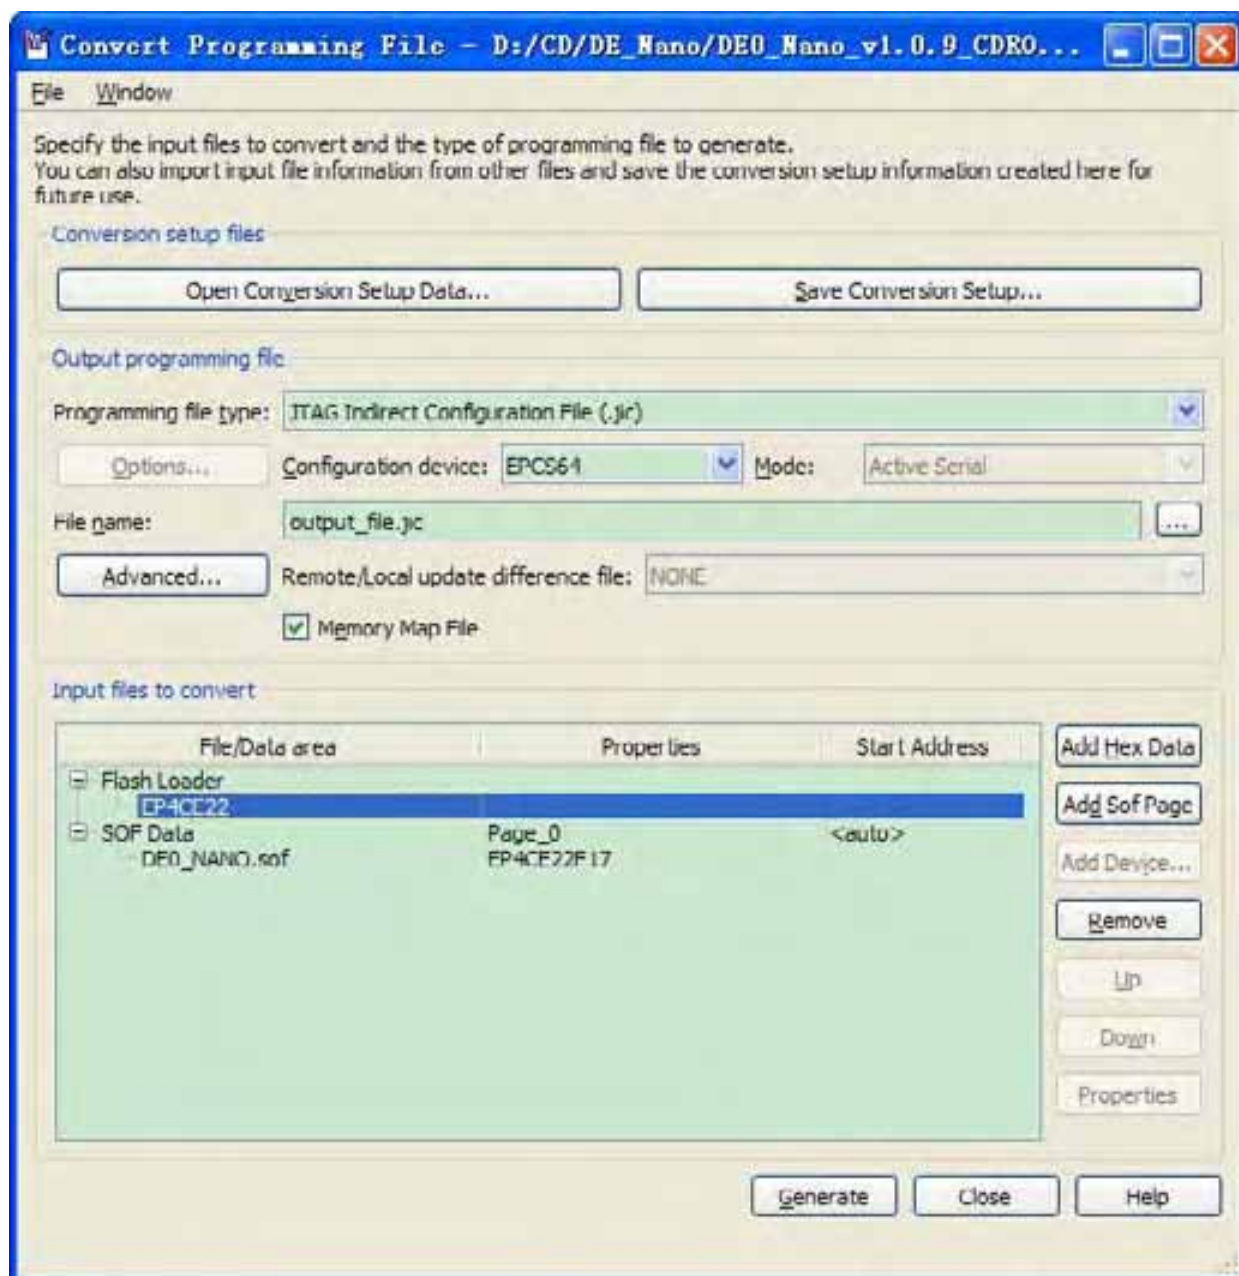

Figure 9-4 Convert Programming Files Page
12. Click OK. The **Convert Programming Files** page displays, should look like Figure 9-4.